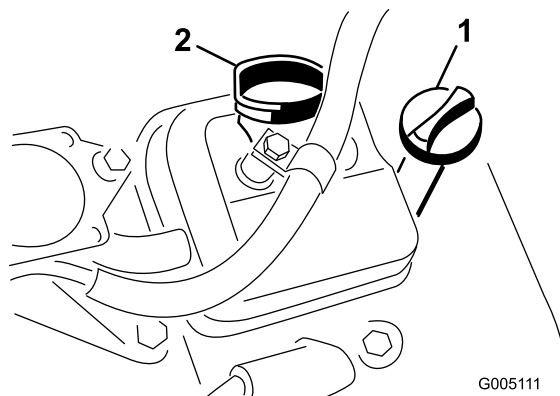

Figure 18
2. Unscrew the dipstick and wipe it with a clean rag. Screw the dipstick into the tube and make sure it is seated fully (Figure 18).